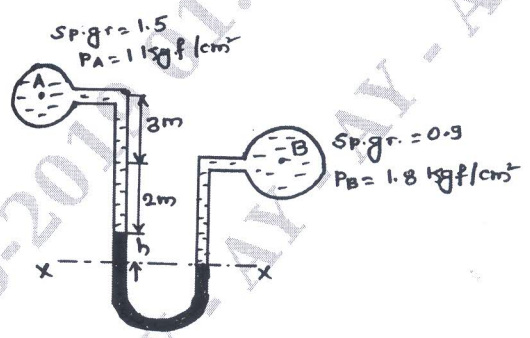

Fig Q2(b)
- b. A differential Manometer is connected at the two points A and B of two pipes as shown in Fig Q2(b). The pipe A contains a liquid of sp.gr = 1.5 while pipe B contains a liquid of sp.gr = 0.9. The pressure at A and B are 1 Kg f/cm² and 1.8Kg f/cm² respectively. Find the difference in Mercury level in the differential Manometer. (10 Marks)